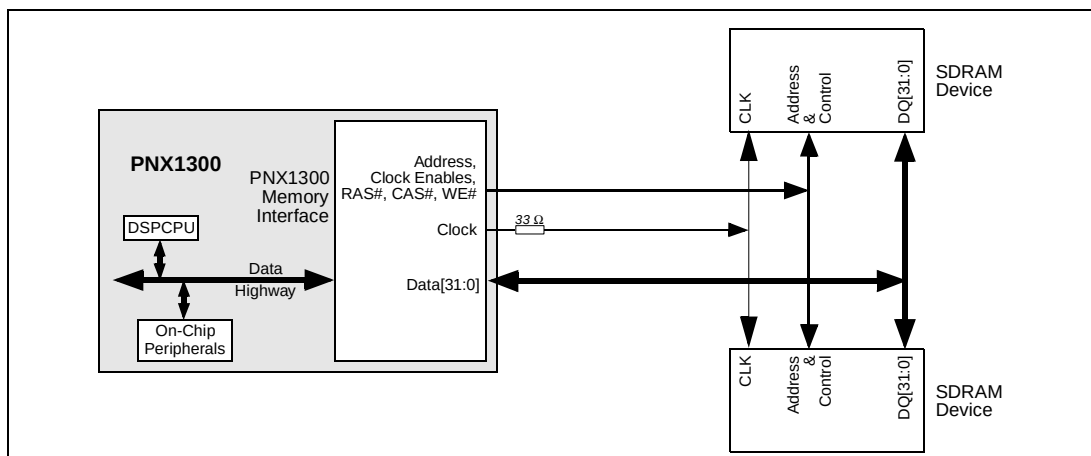

Figure 12-4. Conceptual board layout.
**Figure 12-4** shows a conceptual circuit board layout. Two SDRAM devices share a single clock output. The clock signals should have source-series termination.